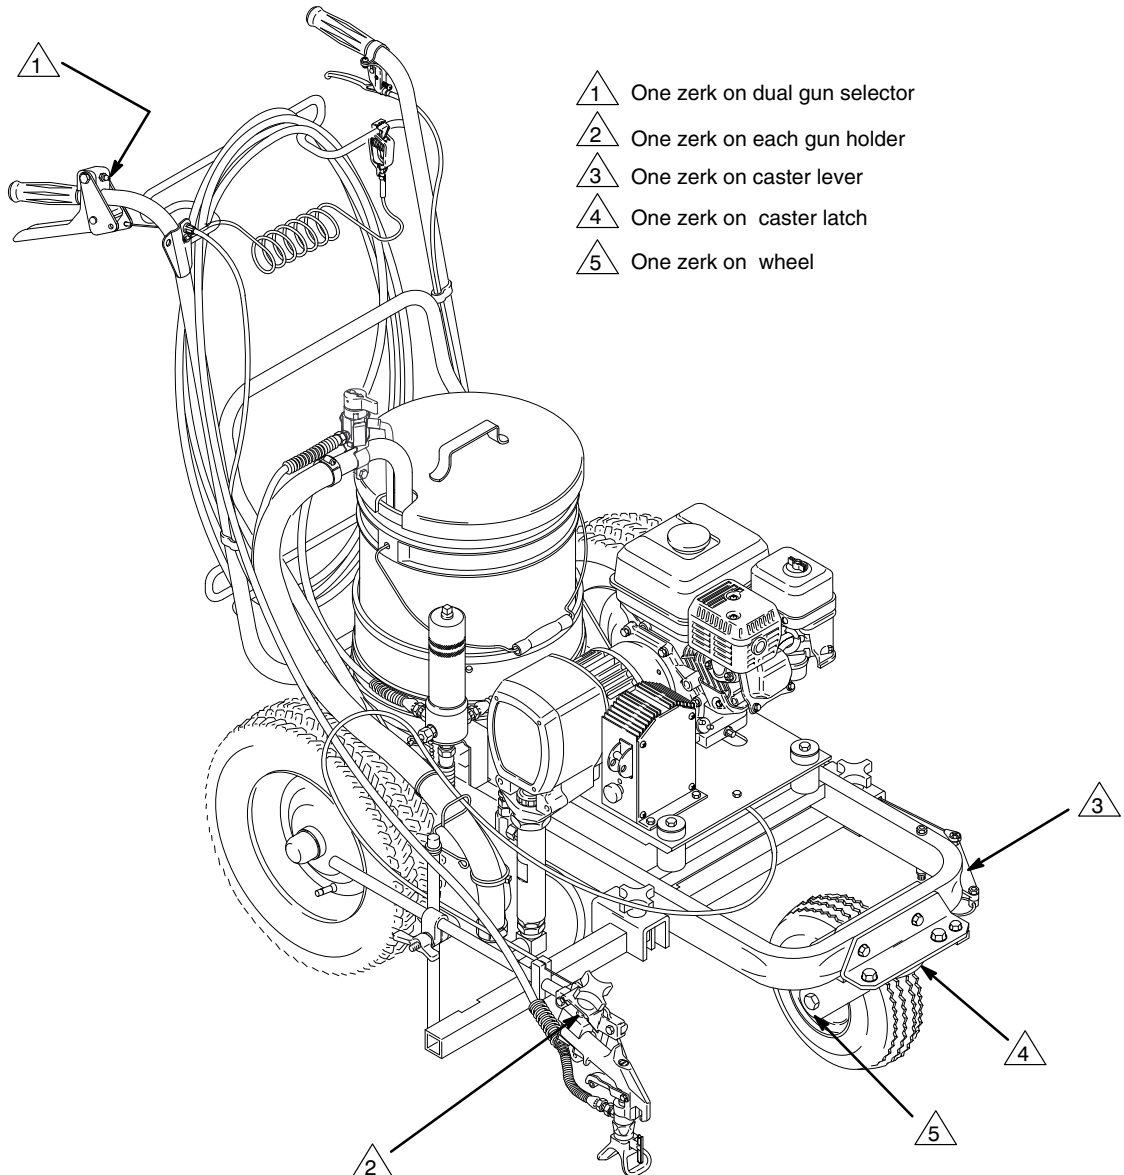

Fig. 22
Weekly: Use a grease gun to grease the zerks (32) on this unit. The grease purges pivot areas of paint buildup. See Fig. 22.